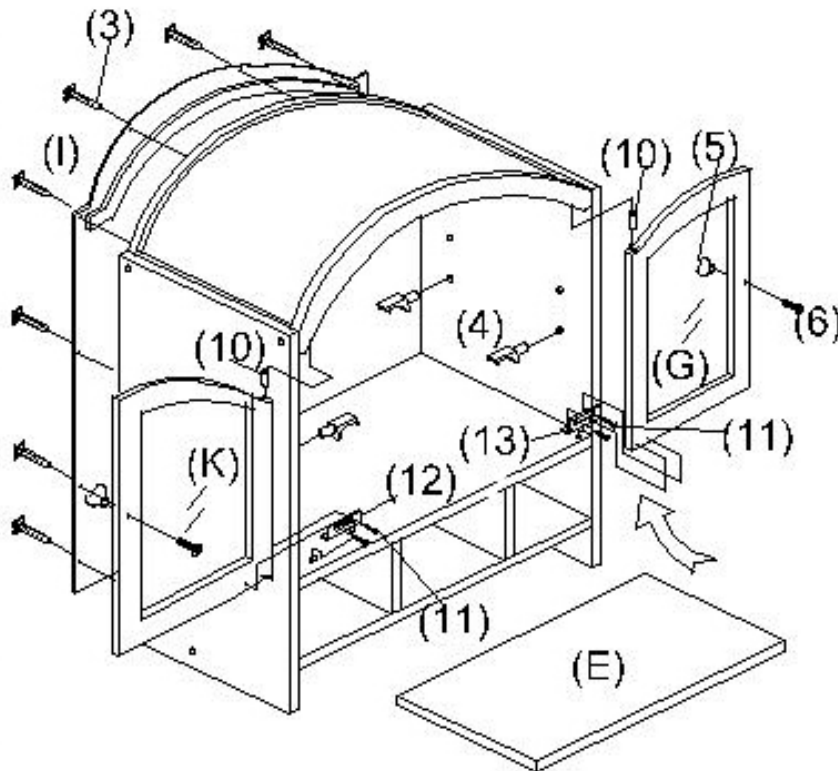

FIGURE 3
- ATTACH BACK PANEL (I) INTO SLOTS ON PARTS (A, B, C, J). INSERT PAN HEAD WOOD SCREWS (Ø2.6X10mm) (3) THROUGH PREDRILLED HOLES ON BACK PANEL (I) AND TIGHTEN INTO REAR EDGES OF PARTS (A, B, C, J). INSERT METAL HINGES (10) INTO TOP EDGES OF LEFT AND RIGHT
DOORS (K, G) AND FIT INTO CORRESPONDING HOLES ON UNDERSIDE OF TOP PANEL (A). FIT LEFT AND RIGHT METAL HINGES (12, 13) INTO PREDRILLED HOLES ON UPSIDE OF UPPER FIXED SHELF (D). INSERT SMALL FLAT HEAD WOOD SCREWS (Ø3X10mm) (11) THROUGH LEFT AND RIGHT METAL HINGES (12, 13) AND TIGHTEN INTO PREDRILLED HOLES ON LEFT AND RIGHT DOORS (K, G). (AS SHOWN IN FIGURE 3)
6. INSERT SMALL MACHINE SCREWS (Ø5/32"X5/8") (6) THROUGH PREDRILLED HOLES ON BACK OF LEFT AND RIGHT DOORS (K, G) AND TIGHTEN INTO METAL KNOBS (5). FIT SHELF SUPPORTS (4) INTO PREDRILLED HOLES ON INSIDE OF LEFT AND RIGHT SIDE PANELS (B, C). PUT ADJUSTABLE SHELF (E) ON SHELF SUPPORTS (4). (AS SHOWN IN FIGURE 3)